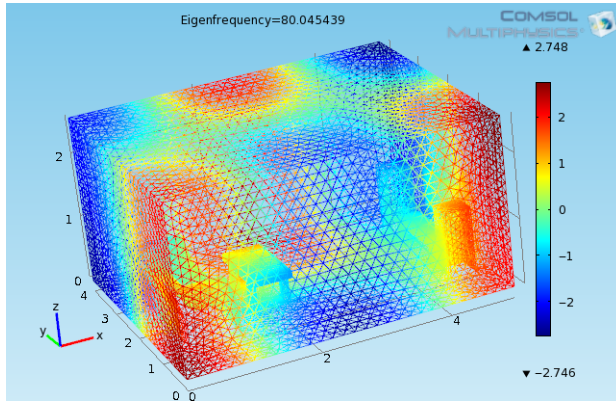
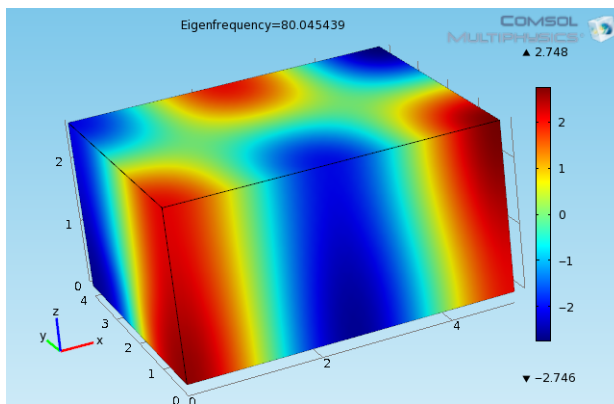

Figure 22-29: A 3D volume plot with the wireframe check box selected. From the Model Library: Eigenmodes of a Room.
Figure 22-30: A 3D volume plot. From the Model Library: Eigenmodes of a Room.
Use **Volume** plots display a quantity inside a domain in 3D. See Figure 22-30 and Figure 22-29 for examples from the COMSOL Multiphysics Model Library.
- d To plot only on the visualization mesh, select the **Wireframe** check box. This displays the surface as a triangular grid. See Figure 22-29 for an example.